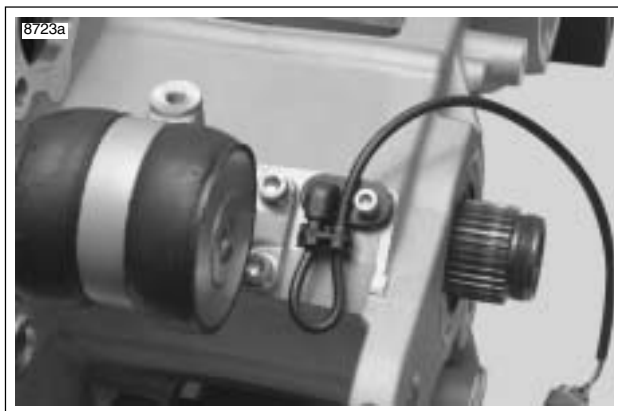

Figure 6-51. Rear Isolator Assembly
13. See Figure 6-51. Remove rear isolator assembly by removing the forward two fasteners first and then the two rear fasteners (re-install with **new** fasteners).